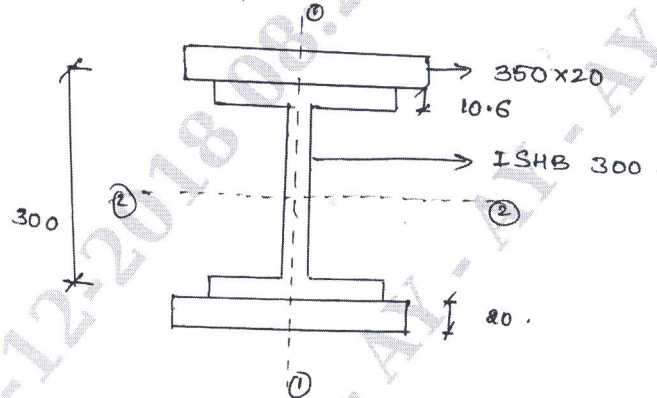

Fig. Q8 (b)
- b. Calculate the compressive resistance of compound column consisting of ISHB 300 with one cover plate of 350×20 mm on each flange (Fig. Q8 (b)) and having a length of 5 m. Assume that the bottom of the column is fixed and top is rotation fixed translation free and $f_y = 250$ MPa. (08 Marks)